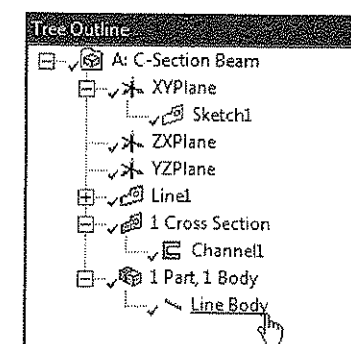

Figure 4-10 Selecting **Line Body** from the Tree Outline
3. Expand the **1 Part, 1 Body** node and select the **Line Body** displayed under it, as shown in Figure 4-10; the details of the selected line body are displayed in the **Details View** window. Note that the **Cross Section** property is highlighted in yellow indicating that you need to define the cross-section.